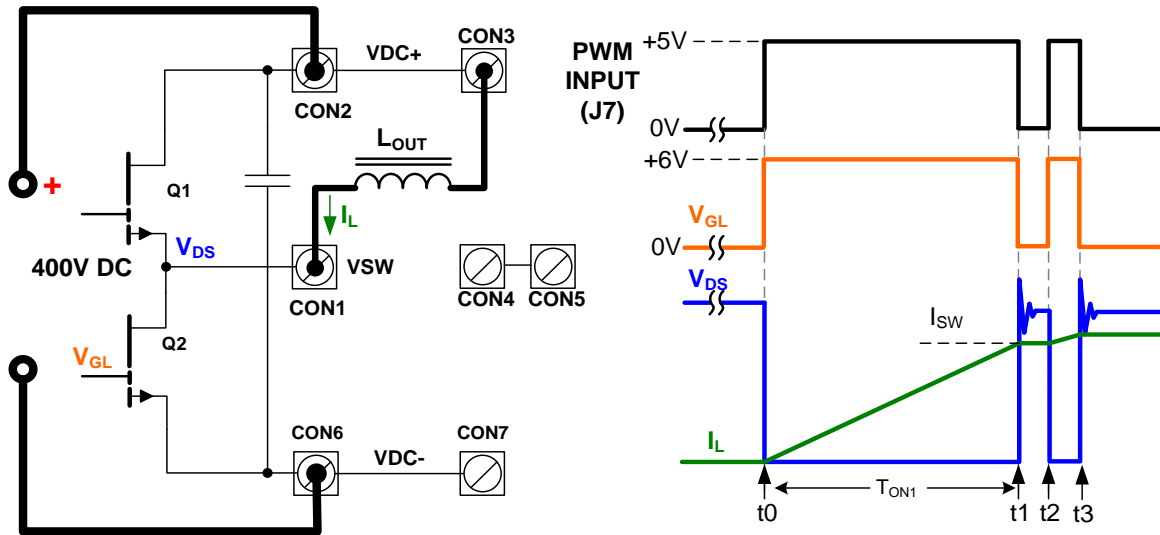

Figure 12 Double pulse test setup
The circuit configuration and operating principle can be found in Figure 12:
- d. Set High voltage (HV) DC supply voltage to 0V and ensure the output is OFF. Connect HV supply to **CON2** and **CON6**.
- c. Set up signal generator to create the waveforms as shown in Figure 12. Use equation  $I_{sw} = (V_{DS} * T_{ON1}) / L$  to calculate the pulse width of the first pulse and ensure the  $I_{sw\_max}$  is  $\leq 15A$  at 400VDC.